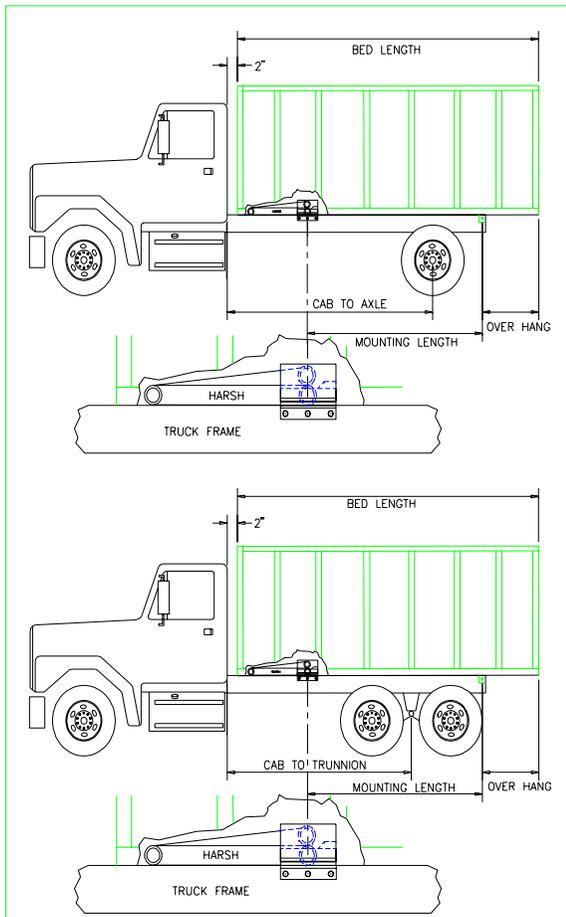

Figure 6: Mount Locations
4. Measure the distance between the front of the bed and the location that the mounting chart recommends for placement of the upper hoist mounts. **Do not forget to allow for cab to bed clearance. This distance should be at least 2 inches, and more for cab over trucks.** This is done so that adjustments can be made in hoist location to insure proper mounting. The upper mounts are designed to fit between the bed cross sills (see Figure 6).